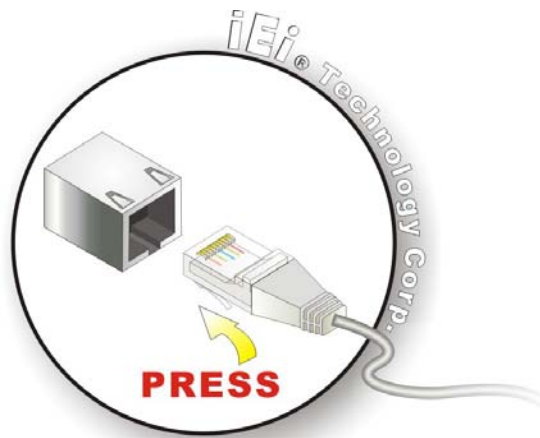

Figure 2-8: LAN Connection
Step 2: **Align the connectors.** Align the RJ-45 connector on the LAN cable with one of the RJ-45 connectors on the bottom panel of the AFL-W15A/17D-GM45. See Figure 2-8.